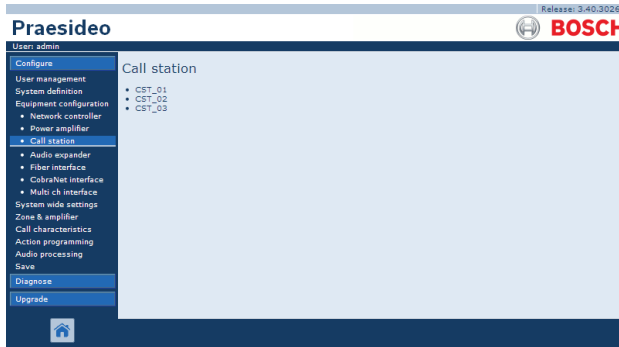

figure 43.20: Configure call station, step 1
- 1 Go to *Configure > Equipment configuration > Call station*. A screen similar to the one in figure 43.20 appears in the main frame of the web interface.